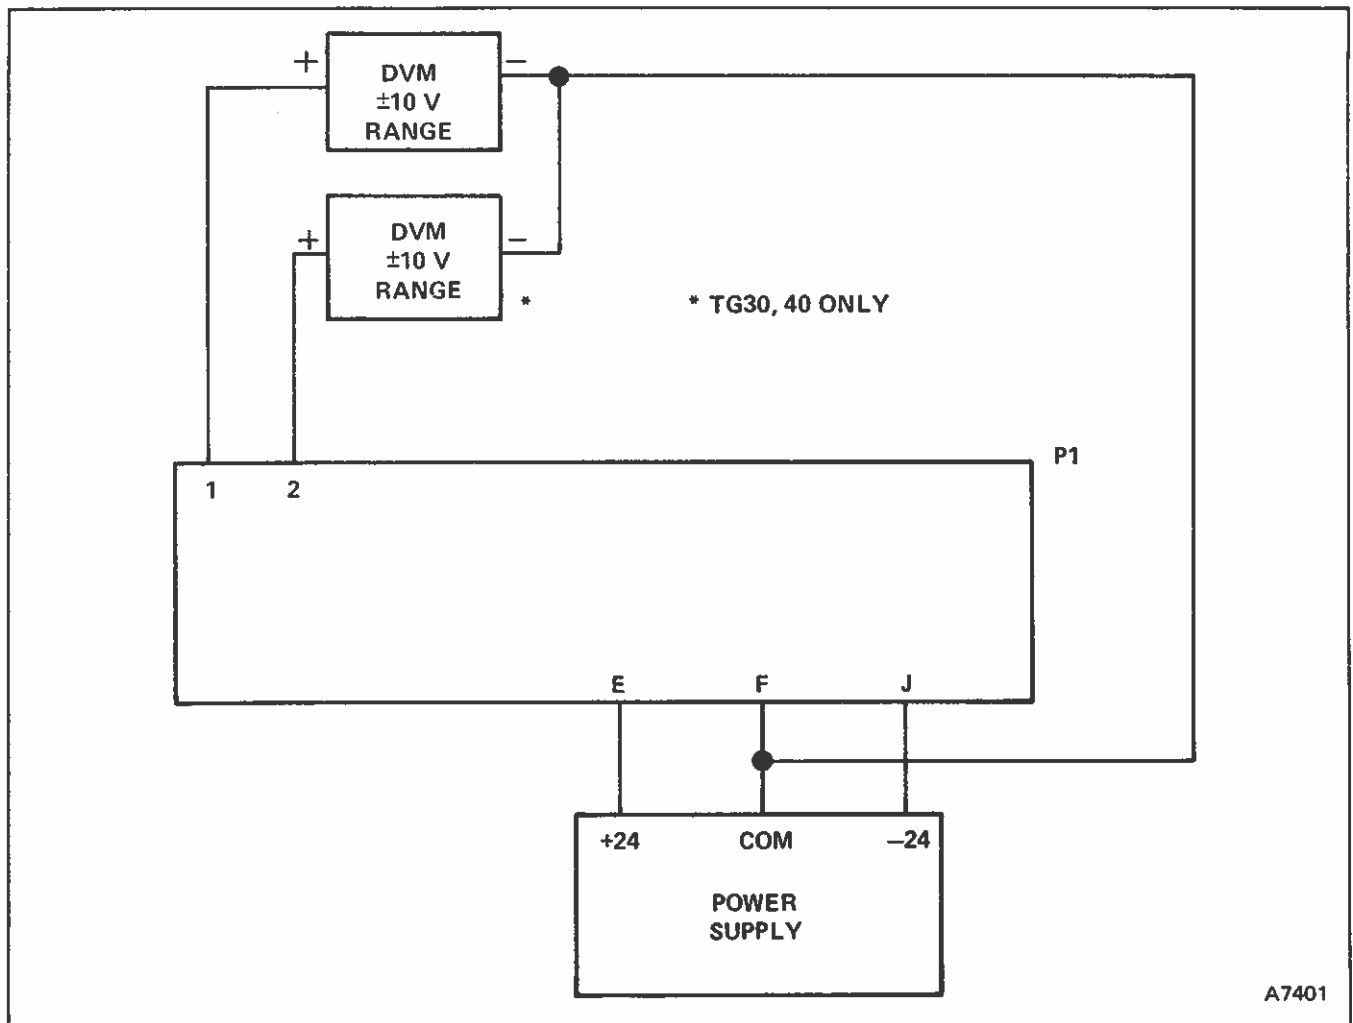

FIGURE 36 – Calibration Circuits for TG11, TG30 and TG40 Stations
3. Connect Station to calibration circuit (Figure 36) and turn on power supply.